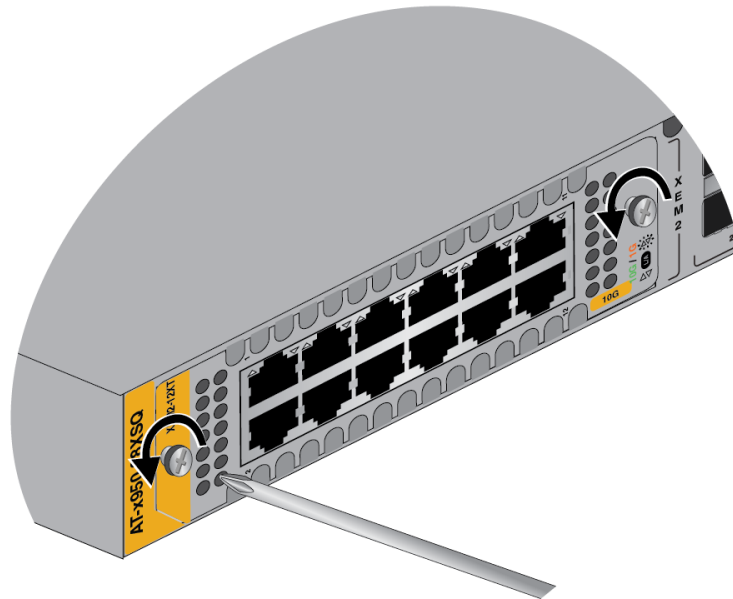

Figure 137. Loosening the Screws on the Ethernet Line Card
4. Use a #2 Phillips-head screwdriver to loosen the two screws on the faceplate of the card. Refer to Figure 137.